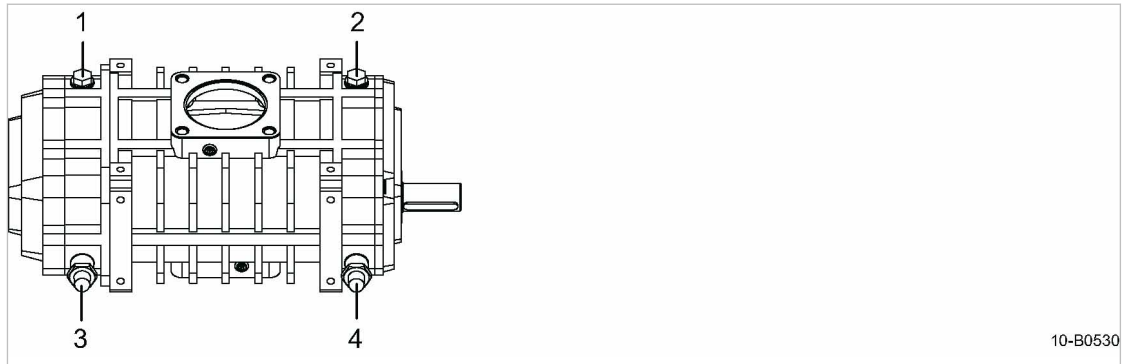

Fig. 34 Replenishing lubricating oil
2. Open the filler plugs at the oil inlet of the blower block (1) and (2) (Fig. 34).
3. Take off the caps (1) and (2) and open the oil drain taps (3) and (4).
3. Close the oil drain taps (3) and (4).
4. Check the oil level in both sight glasses (Fig. 34) and top off as necessary.
5. Screw on the caps (1) and (2).